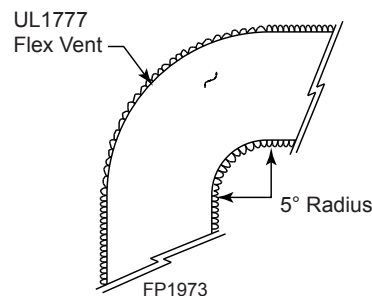

Figure 35 - Minimum Radius for Flex Vent Section
3. Do not allow the flexible vent to bend in radius tighter than 5" (127 mm). *Figure 35*